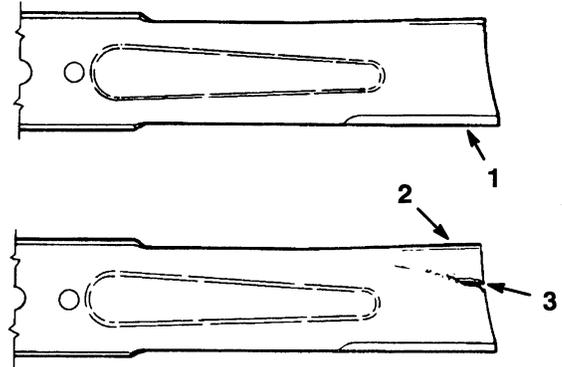

Figure 24
2. Inspect the cutting edges (Fig. 24). If the edges are not sharp or have nicks, remove the blade(s) and sharpen them; refer to Sharpening the Blade(s), page 17.
3. Inspect the blade(s), especially the curved area (Fig. 24). If you notice any damage, wear, or a slot forming in this area (Fig. 24), immediately install a new blade.